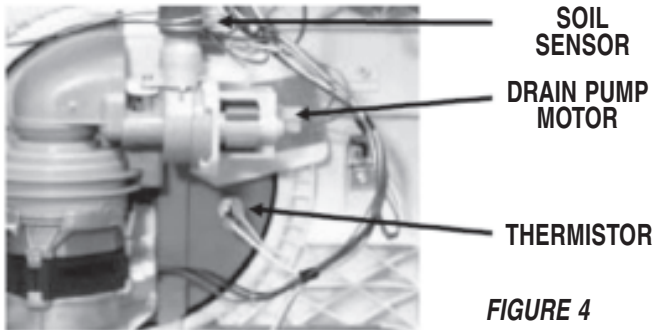

FIGURE 4
10. Remove the thermistor by turning it ¼ turn counterclockwise and then pulling it out of the sump. (Fig. 4)